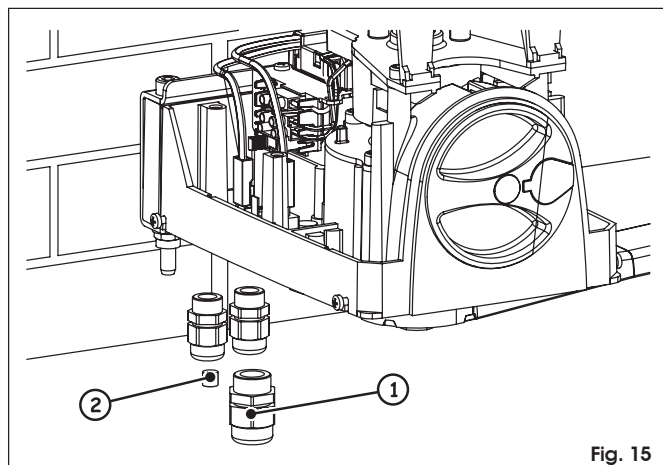

Fig. 15
1. Install all the three supplied cable grippers with the securing nuts (Fig. 15).
👉 Always use the largest cable gripper (Fig. 15 ref. ①)
👉 If the other two cable grippers are not used, they must be closed, using the supplied plugs (Fig. 15 ref. ②). Fit the plastic plug in the cable routing hole and close the cable gripper until it is tight.